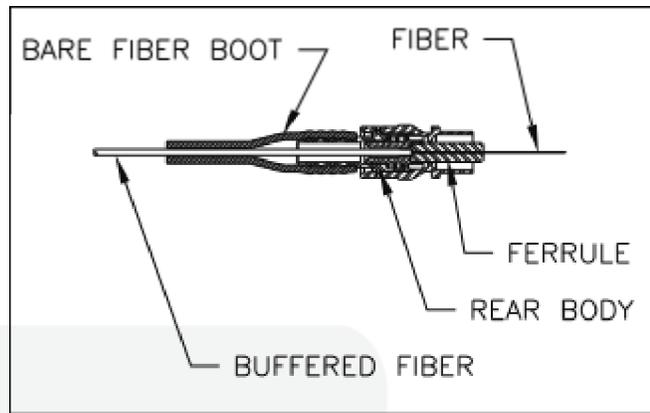

Figure 21: The bare fiber is properly seated against the ferrule.
6. After placing the connector into the curing oven, ensure the buffer is bottomed on the inside of the connector (as indicated in Figure 21). This may be accomplished by applying a gentle downward force on the buffered fiber toward the connector. NOTE: The remaining buffered fiber should be supported to ensure the buffer remains seated in the connector throughout the heat cure process.